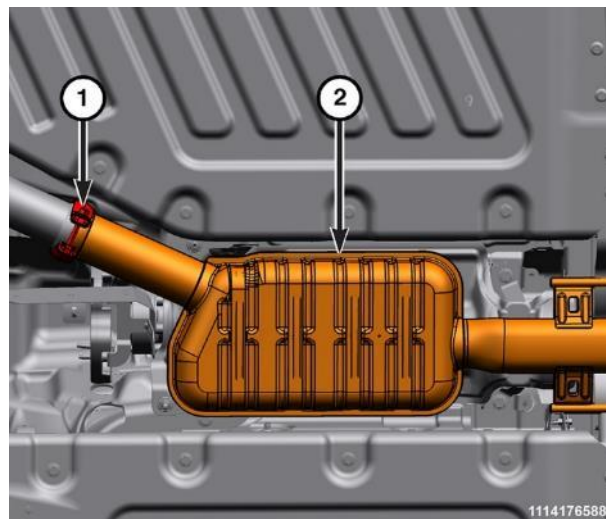

Figure 36 – Exhaust Resonator/Muffler
- 15. Loosen the exhaust resonator/muffler clamp nut (Figure 36).
- 16. With the help of an assistant, remove the exhaust resonator/muffler assembly (Figure 36).